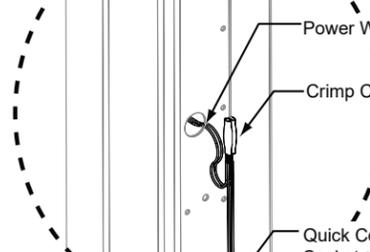

Figure 5
11. Using the provided sealed crimp connectors, terminate the quick connect socket assembly to the power wires. See Figure 5 (NOTE: The 4801 is not polarized)